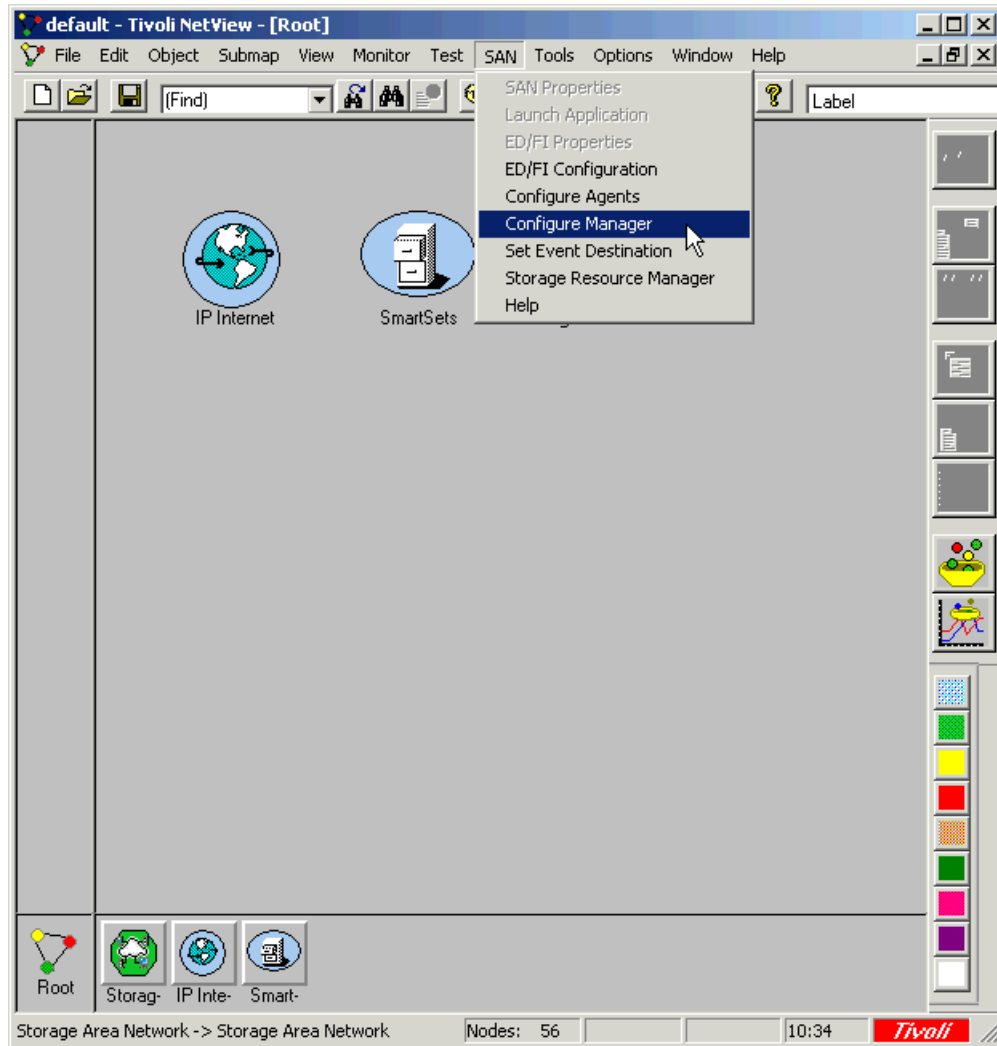

Figure 14-8 Selecting Configure Manager
4. From the Tivoli NetView [Root] window (Figure 14-8), select **SAN -> Configure Manager**.